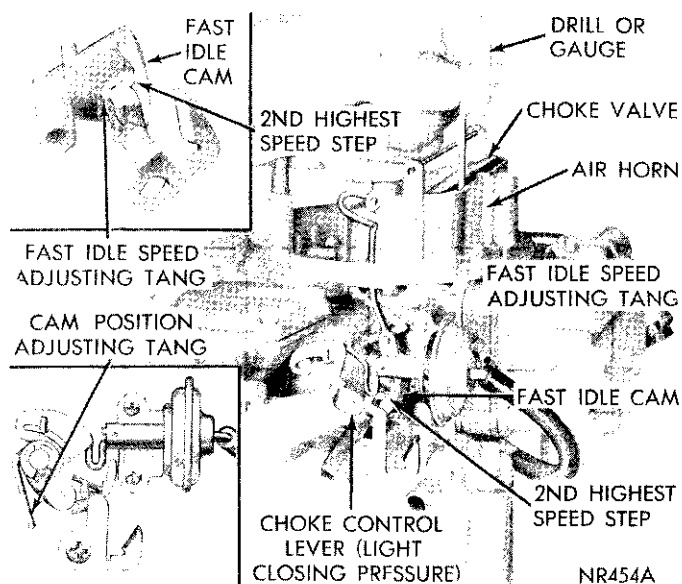
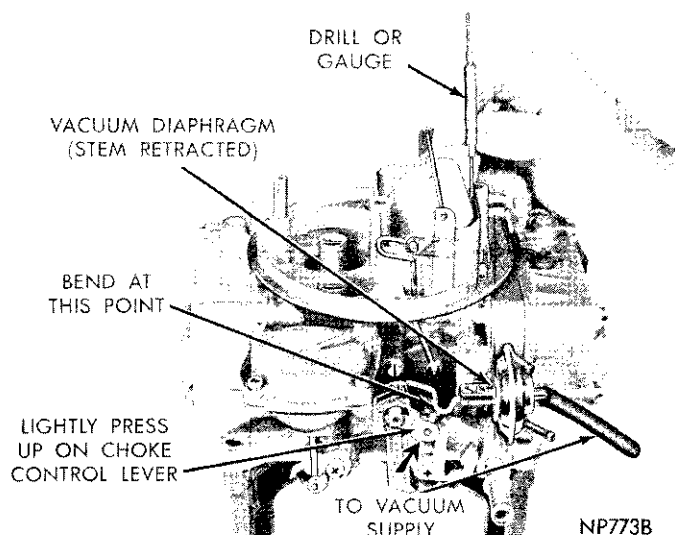

Fig. 21—Fast Idle Cam Position Adjustment
Fig. 22—Vacuum Kick Adjustment
- (1) Qualify the choke control lever, if necessary. (See Qualifying the Choke Control Lever Paragraph).
- (2) With fast idle speed adjusting tang contacting second highest speed step on fast idle cam, move choke valve toward the closed position with light pressure on choke control lever.
- (3) Insert specified drill between the choke valve and wall of the air horn (see specifications). An adjustment will be necessary if a slight drag is not obtained as the drill is being removed.
- (4) To adjust, bend the indicated tang (Fig. 21) until the correct choke valve opening has been obtained.
(1) If the adjustment is to be made with the engine running, position the fast idle tang (Fig. 21) (Cam position adjustment) to allow choke closure to kick position. If auxiliary vacuum source is to be used, open throttle valves, (engine not running) and move choke to closed position. Release throttle first, then release choke.
(2) When using an auxiliary vacuum source, disconnect the vacuum hose from the carburetor and connect it to the hose from the vacuum supply with a small length of tube to act as a fitting. Removal of the hose from the diaphragm may require forces which damage the system. Apply a vacuum of 10 or more inches of hose.
(3) Insert the specified drill (see specifications) between the choke valve and the wall of the air horn. (Fig. 22). Apply sufficient closing pressure on the lever to which the choke rod attaches to provide a minimum choke valve opening without distortion of the diaphragm link. Note that the cylindrical stem of the diaphragm will extend as an internal spring is compressed. This spring must be fully compressed for proper measurement of the vacuum kick adjustment.
(4) An adjustment will be necessary if a slight drag is not obtained as the drill is being removed. Shorten or lengthen the diaphragm link to obtain the correct choke opening. Length changes should be made by carefully opening or closing the bend provided in the diaphragm link. **CAUTION: DO NOT APPLY TWISTING OR BENDING FORCE TO DIAPHRAGM.**